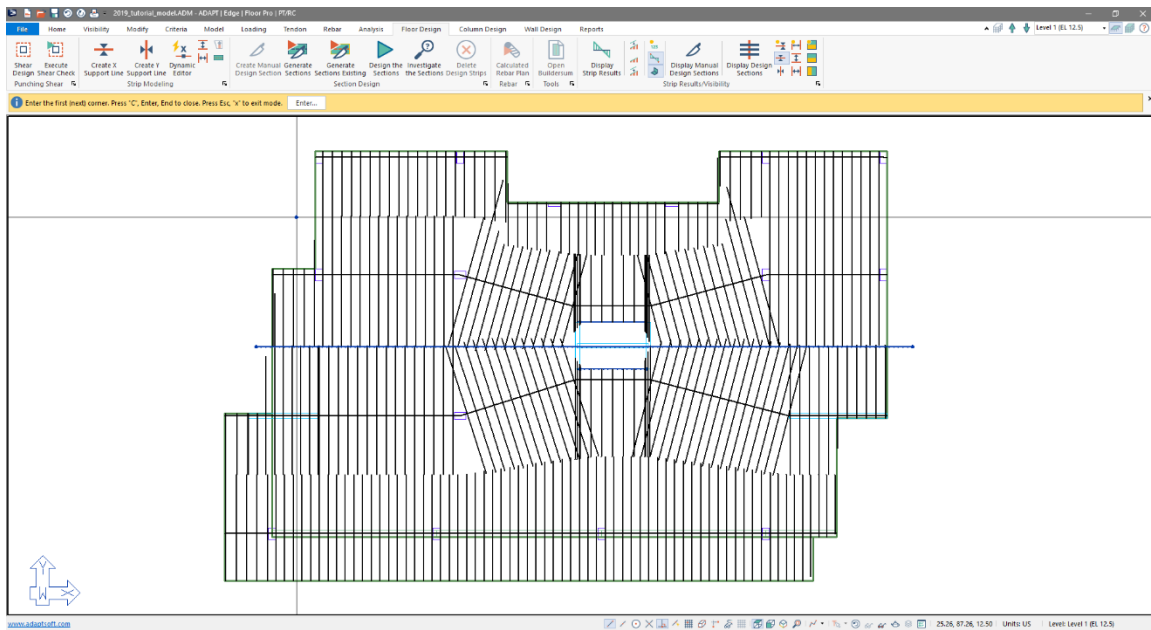

Figure 9-25
- Hover your mouse midway between support line 3 and support line 4, outside of the slab region as shown in **FIGURE 9-25**.